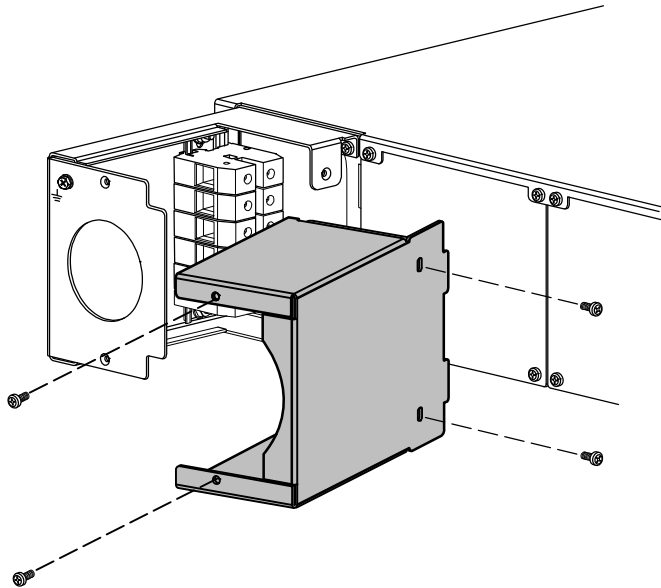

Figure 7. Removing the Input Box Access Cover
4. Use a Phillips screwdriver to remove the four screws from the input box access cover and retain (see Figure 7).